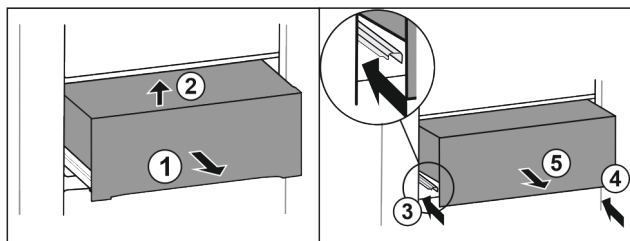

Fig. 42
- ▶ Pull out the drawer halfway. Fig. 42 (1)
- ▶ Lift drawer at the front. Fig. 42 (2)
- ▶ Slide in left rail. Fig. 42 (3)
- ▶ Slide in right rail. Fig. 42 (4)
- ▶ Remove drawer to the front. Fig. 42 (5)